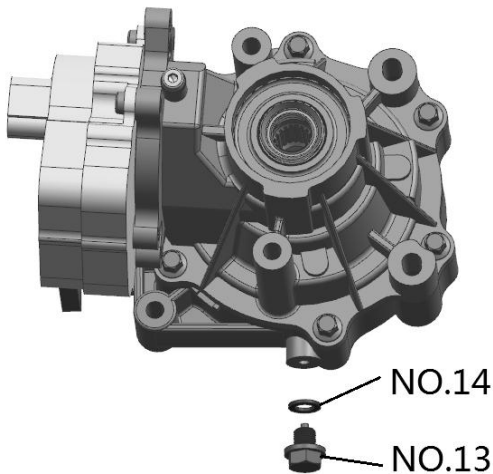

**Fig 1**
**Important:** Clean the plug carefully and Replace WASHER 10 (NO.14) before its assembled. →Fig 1.